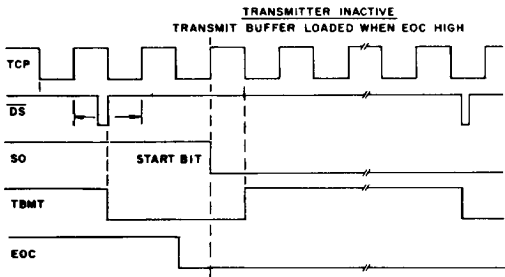

Fig. 28 TRANSMITTER AT START BIT NOT A TEST POINT
- NOTE: SEE FIGURES 28, 29, 30 FOR DETAILS. TRANSMITTER INITIALLY ASSUMED INACTIVE AT START OF DIAGRAM. SHOWN FOR 8 LEVEL CODE AND PARITY AND TWO STOPS.